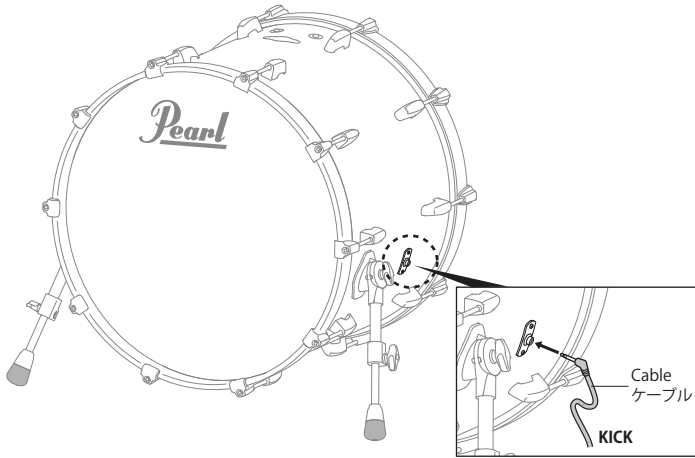

Fig.8
6. Connect the Bass Drum to the Sound Module by using the cable labeled as **KICK**. Insert the cable-end into the jack located on the side of the drum as shown (Fig.8).
ケーブル **KICK** をジャックに接続します (Fig.8)。